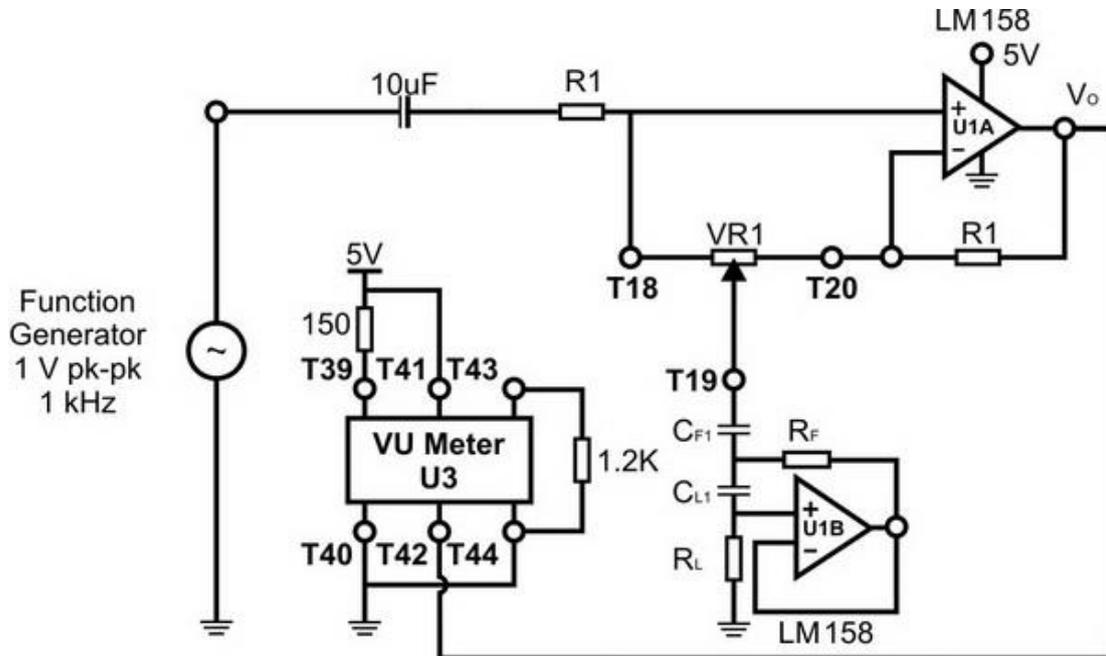

Figure 4 – Single Band Equalizer with VU Meter
1. Build a single band equalizer by following the schematic connections as shown in Figure 4 on the breadboard of the ME3100 Analog Circuit Design kit. This single band equalizer will be used to test the functionality of the Audio VU Meter. Refer to the appendix for the pin layout of the op-amp LM158.